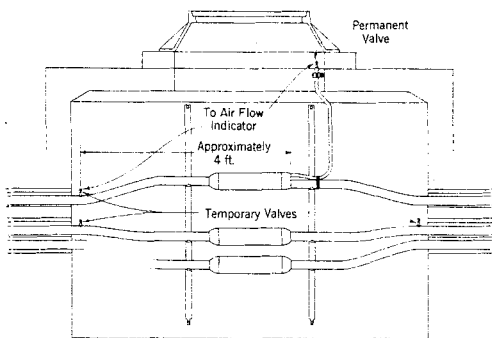

Fig. 4—Typical Arrangement of Valves in Manholes
4.03 Typical arrangements of valves for airflow indicator tests in manholes are shown in Fig. 4. The distance between the valve and the duct entrance should not be less than 4 inches when a C pressure flange is installed, or less than 6 inches when an F pressure flange is installed.